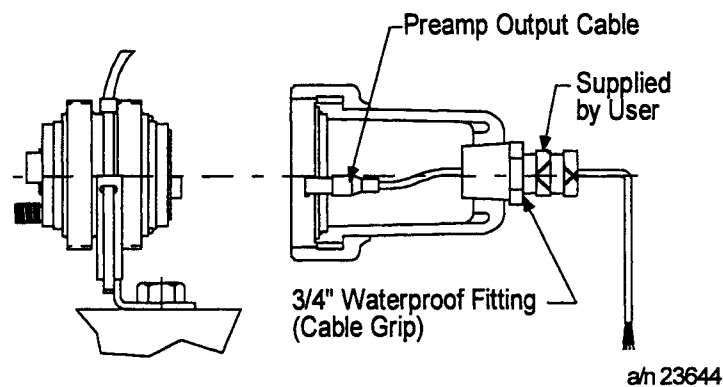

Figure 3-6. 31079288 Preamplifier Module, Output End Cap Removed
1. Connect the polarized connector to the output side of the preamplifier, as illustrated in Figure 3-6.